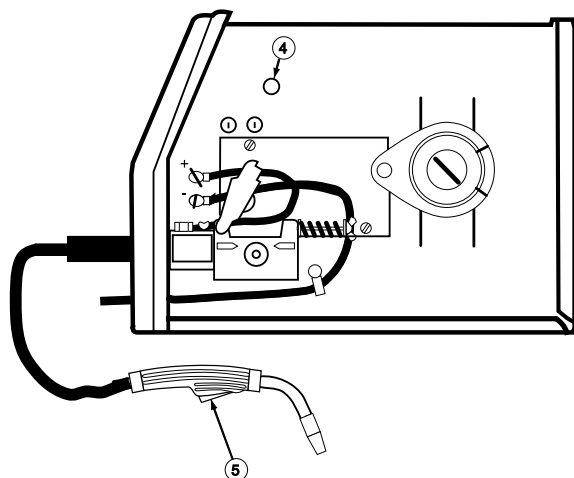

FIGURE B.1b
Refer to Figure B.1b.
4. Circuit Breaker – Protects machine from damage if maximum output is exceeded. Button will extend out when tripped (Manual reset) Refer to Figure B.1b.